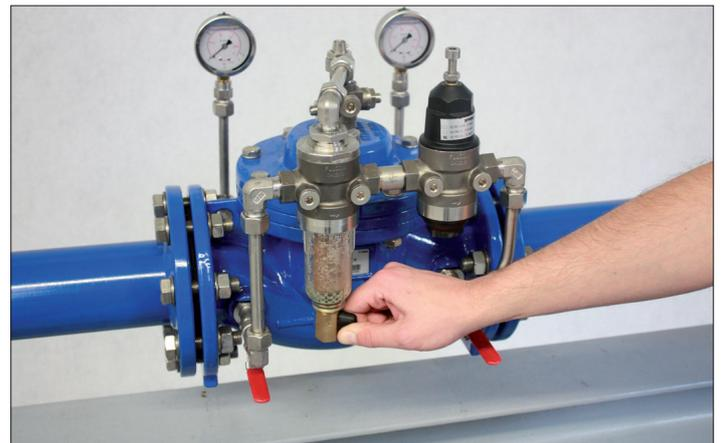

Figure 10: Opening the stop cock
7. The filter integrated in the control circuit must be purged. For purging, open the stop cock at the filter and leave it open until all dirt particles and any trapped air have been removed. (see Figure 10). After purging do not forget to close stop cock again.